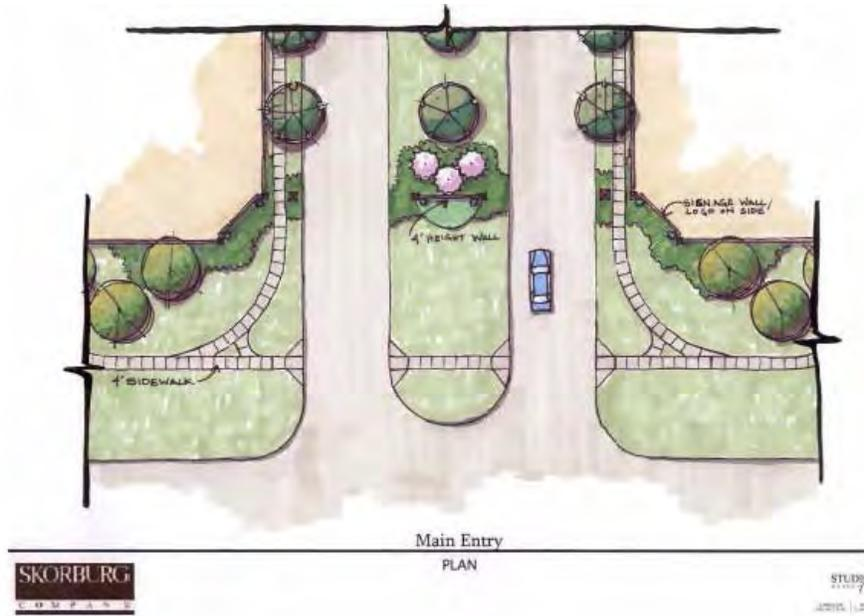

Figure 2: Example of Subdivision Signage Locations
8. *Signage.* Permanent subdivision identification signage shall be permitted at all major entry points, in general conformance to the signage shown in Figure 2 & 3 (below). Final design of entry features to be determined with the Planned Development Site Plan.